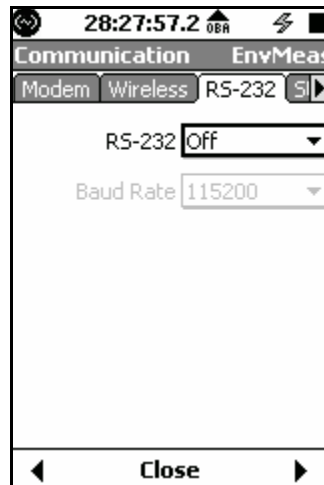
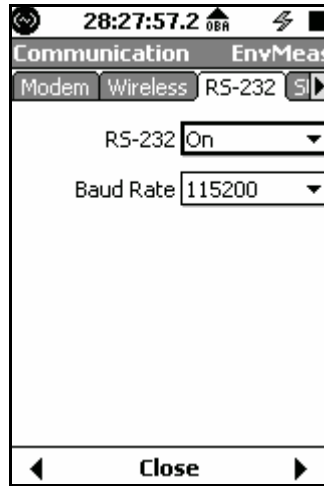

FIGURE 20-12 Communication: RS-232 Tab
FIGURE 20-13 RS-232 Menu
Step 6 Use the Communication **RS-232** tab, shown in FIGURE 20-12, to set the **RS-232** option to **On**, as shown in FIGURE 20-13.